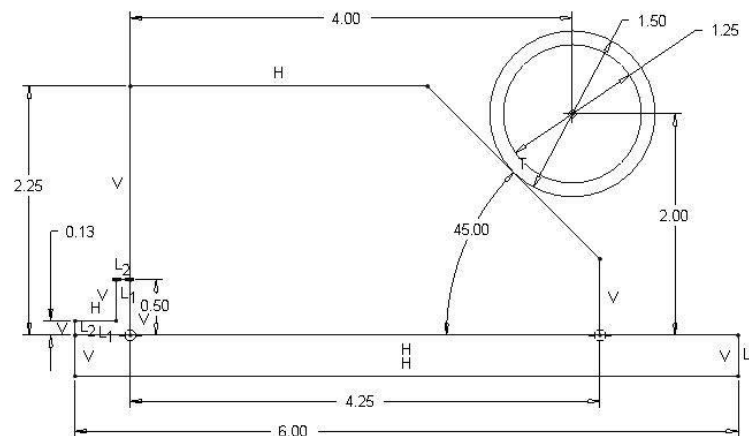

Figure 3-55 Sizing the Block
Step 14: The base dimension can be any value; however, a value near 4.25 inches looks reasonable. See Figure 3-55. To change a dimension, *double-click* LMB on it, then type in the new value followed by the <Enter> key. Will a base size of 4.5, 4.0, or 3.25 work?